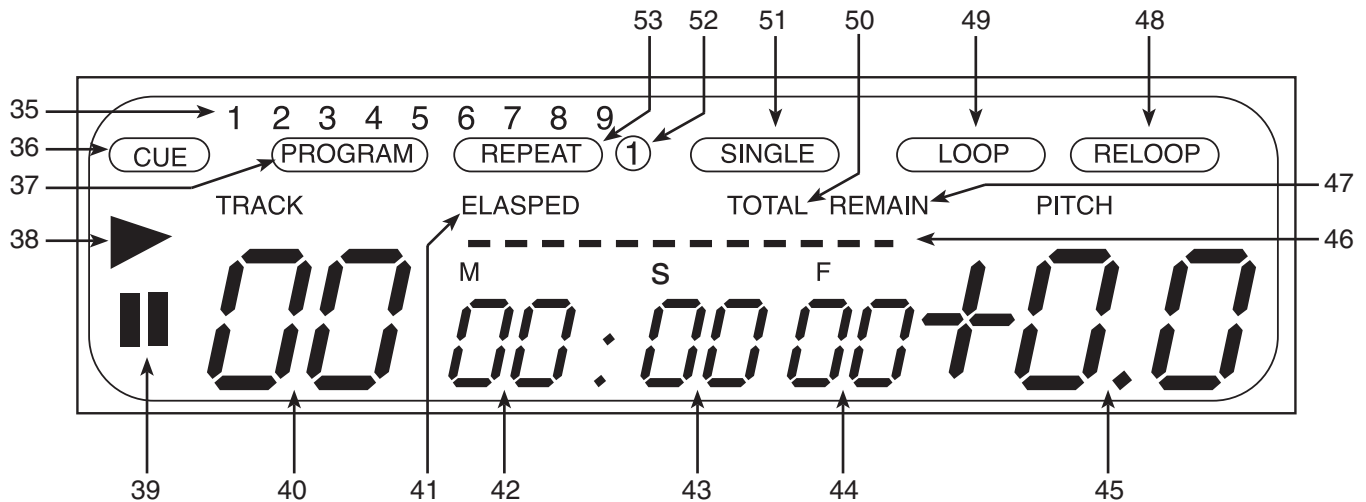

Figure 6
B. LCD DISPLAY (FIGURE 6)
44). When the *ELAPSE* indicator is displayed in the LCD, the time defined will refer to a single track's elapsed time. The time mode is changed by the tapping on the *TIME BUTTON* (5).